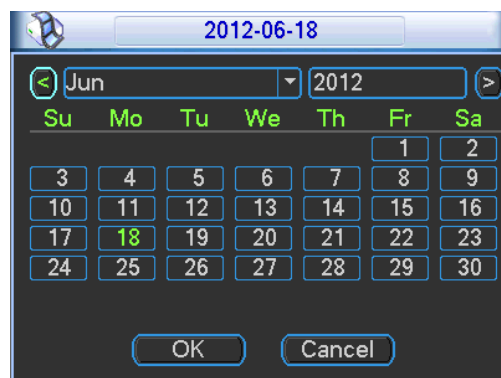

Figure 4-19
- z Record types: There are four types: regular, motion detection (MD), Alarm, MD & alarm.
- z Holiday setting: Click it you can see an interface shown as in Figure 4-19. Here you can set holiday date. Check the box, it means current channel shall record as your holiday setup.